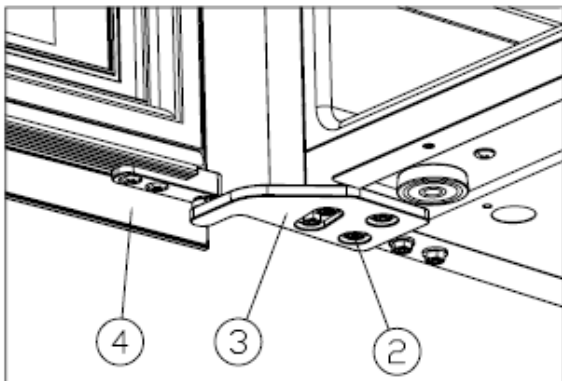

Figure 5
Install the right upper hinge (3), and screw tight the M5\*16 screws (2). [Figure 5]